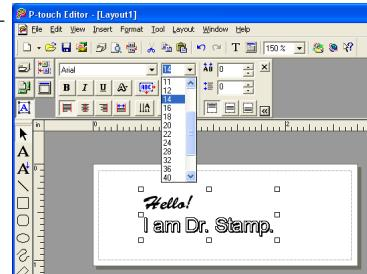

figure 8
- ① Display the Text Properties.
- ② With the Select tool, click the block of text to be changed in the stamp layout. Handles appear around the text block.
- ③ From the “Size” drop-down list, select the desired character size (see figure 8).